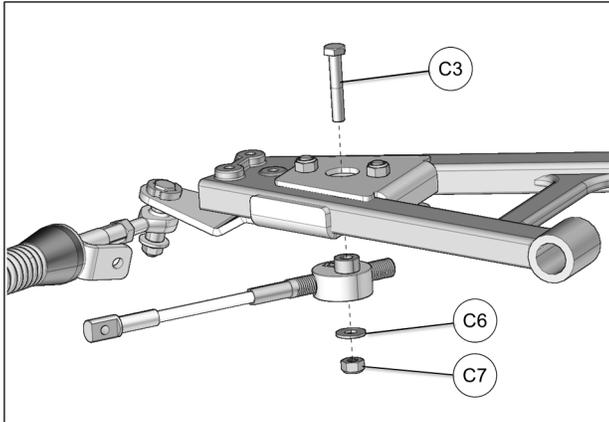

Fig. 29
16. Attach steering limiter cable assembly under anchor bracket using bolt (C3) inserted through bracket cover, washer (C6) and nut (C7). Tighten nut to 50 N•m [37 lb•ft]. Refer to Fig. 29